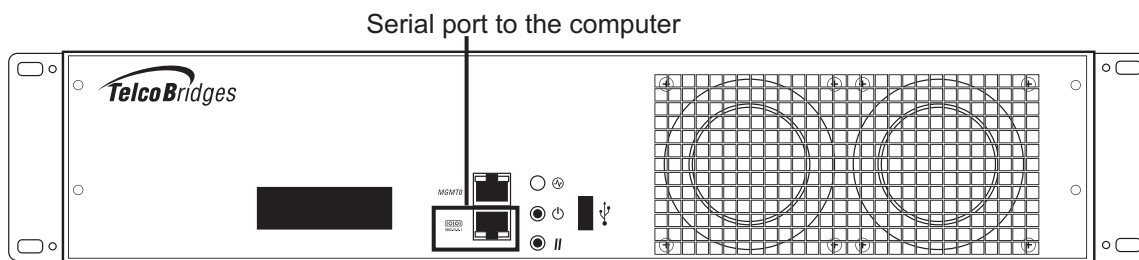

Figure 3.1 Computer to 3200 Series Gateway Serial Port Connection
1. Connect a CAT5 RJ-45 (male-male) cable (supplied with unit) between the com port of your computer and the serial port (labeled 10101) of the 3200 series gateway as shown in figure 3.1 on page 58. See Section A.2 on page 67 for a RJ-45 console wiring diagram.